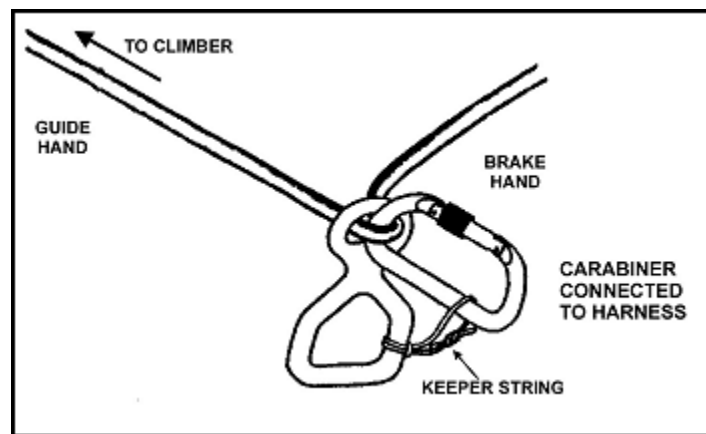

Figure 6-26. Figure-eight device.
(2) **Figure-Eight Device.** The figure-eight device is a versatile piece of equipment and, though developed as a rappel device, has become widely accepted as an effective mechanical belay device (Figure 6-26). The advantage of any mechanical belay is friction required to halt a fall is applied on the rope through the device, rather than around the belayer's body. The device itself provides rope control for upward and downward pulls and excellent friction for halting severe